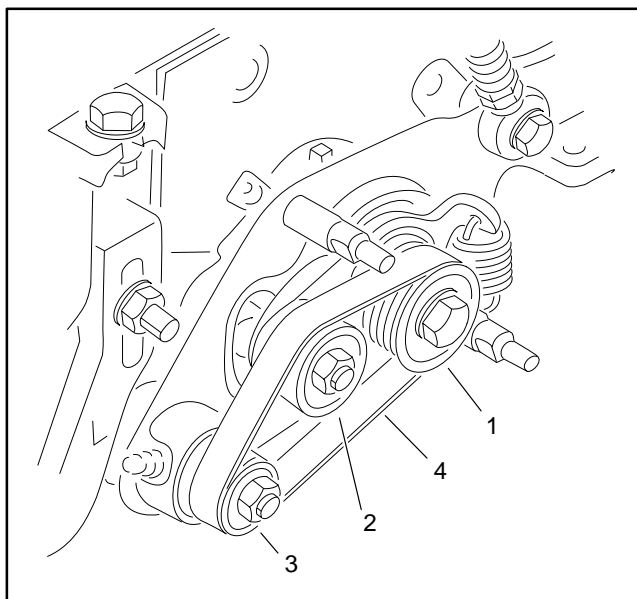

Figure 2
4. Remove groomer belt tension by pivoting idler plate and pulley using a wrench on pulley nut. Slip groomer drive belt off pulleys (Fig. 2). Carefully release idler plate and pulley.
5. Install new drive belt to drive pulley, idler pulley and driven pulley observing correct belt routing (Fig. 2). Make sure that groomer drive belt is above idler pulley after belt installation.
6. Install groomer cover and secure with two (2) flange nuts.